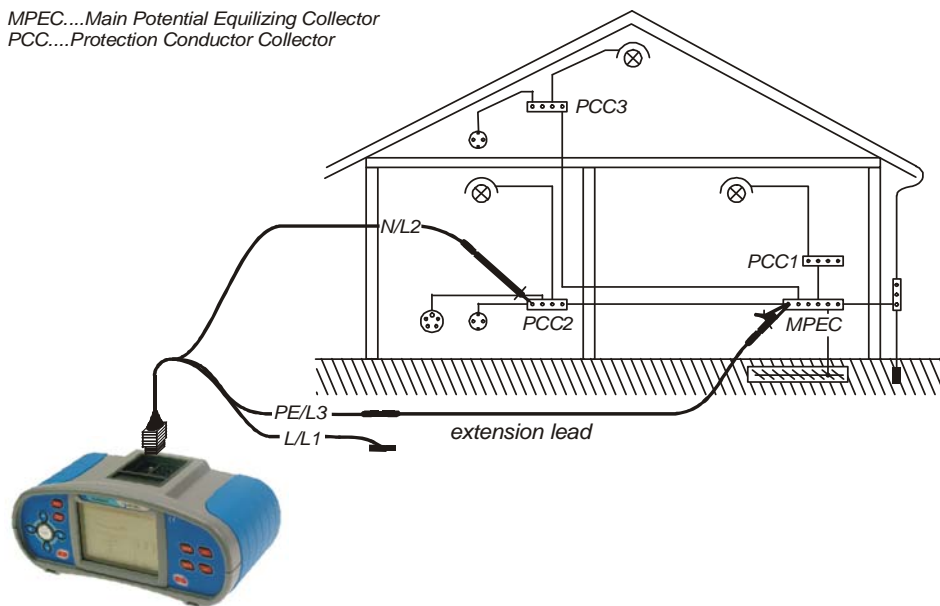

Figure 5.6: Connection of universal test cable plus optional extension lead
- ❑ **Connect** test leads to the tested PE wiring (see figure 5.6).